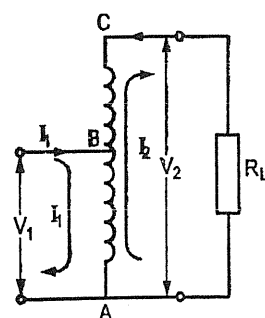

FIG. 3.39 : STEP UP TYPE AUTOTRANSFORMER
- Figure 3.39 shows the step up autotransformer. In this primary winding is AB while the secondary winding is AC. There are N_2 turns in secondary winding and value of N_2 is more than N_1 so voltage V_2 is more than V_1 .